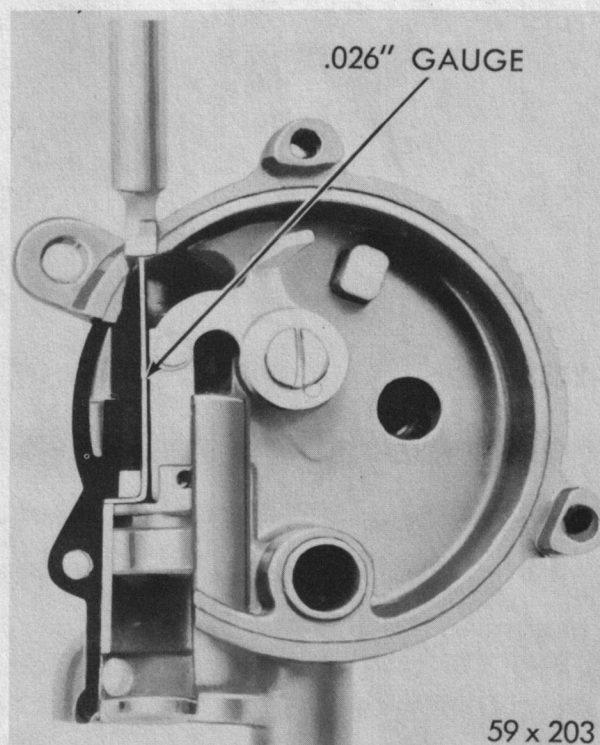

Figure 3
- (d) Slide a .026 inch wire into the choke piston slot, so that hook on the end enters the slot in the cylinder, as shown in the illustration below. (This gauge can be made by bending the .026 inch end of wire gauge Tool T-109-189 to form the shape, as shown in Figure 3.)